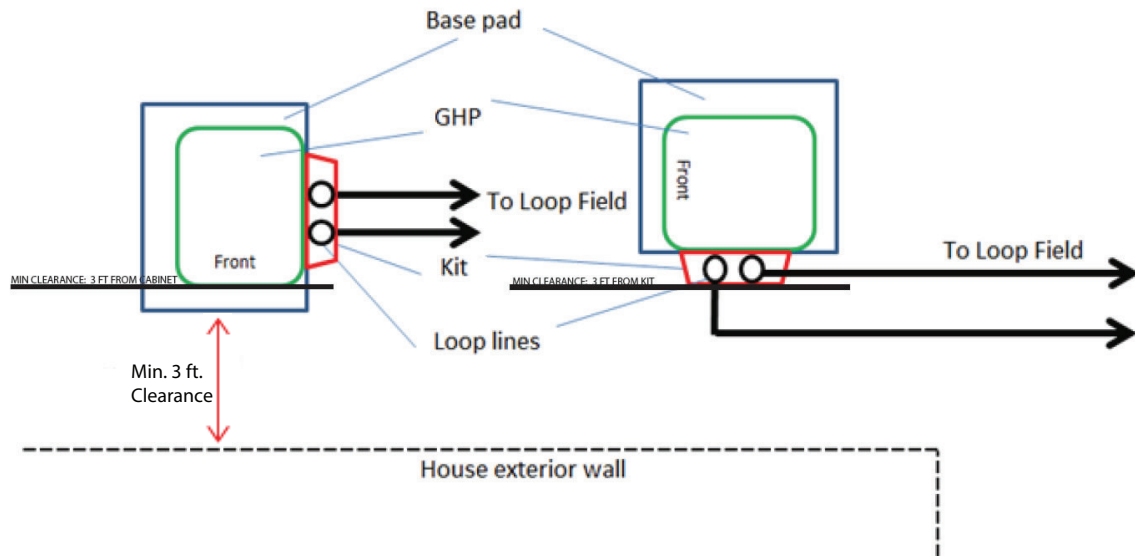

Fig. 1 — Installation Positioning Options (overhead view)
- Consider that the loop piping will enter the kit which will be mounted on the right side of the unit (see Fig. 1).
- Ensure mounting pad is placed on level, compacted base, directly adjacent to vertical pipe risers (see Fig. 1).
- Position the unit on the pad so that the loop piping will enter the bottom of the flow center. The flow center and kit will need to extend over the edge of the pad. (See Fig. 1.) If desired, use heat pump risers in each corner of the GHP to elevate it from the pad to provide for water run-off and snowfall. The risers should be placed under the unit's base rails as shown in Fig. 5.